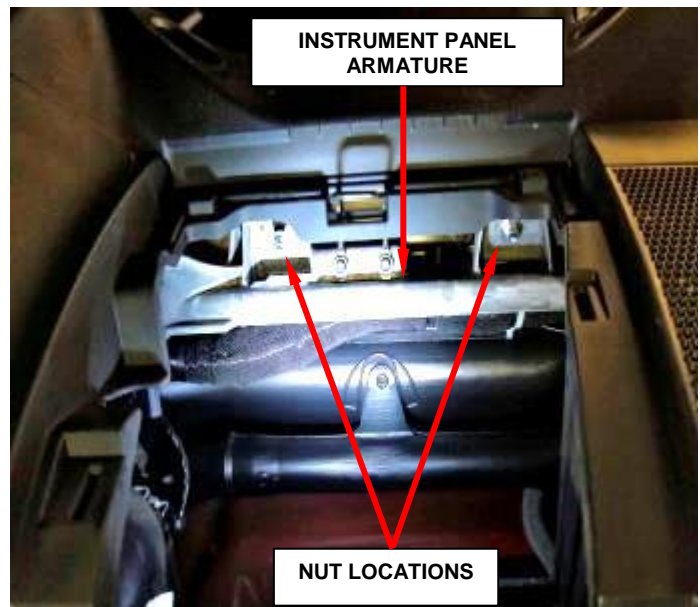

Figure 111 – PAB Lower Nuts
27. Reach up into the instrument panel glove box opening to access and remove and save the two nuts that secure the PAB lower studs to the instrument panel armature on each side of the glove box latch striker (Figure 111).